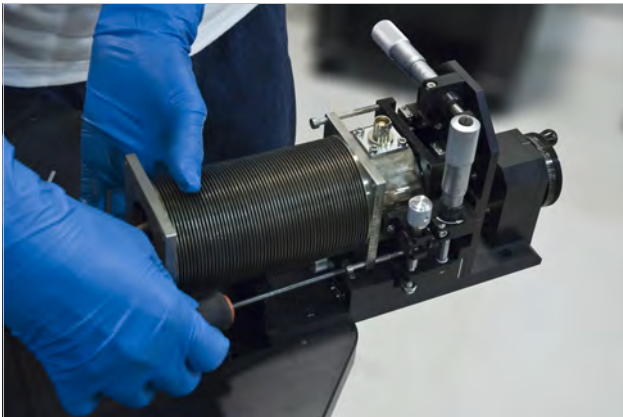

FIGURE 5-8 Left: Remove the four horizontal screws that attach the bellows to the z-axis stage;
1. Using the 3 mm hex driver, loosen and remove the four long M4 horizontal screws that attach the bellows to the z-axis stage (FIGURE 5-8).
3. Compress the bellows to make room to slide it carefully off the probe arm. When you reach the end of the probe arm, you will need to tilt it up to remove it from the probe arm (FIGURE 5-8). Place the bellows on a clean, lint-free cloth or wipe.